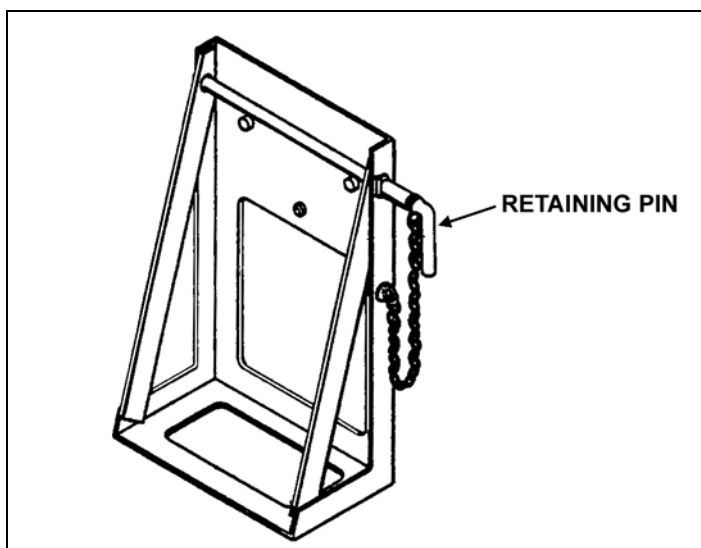

Figure 3-18. Bracket mounting assembly.
(6) ***Bracket Mounting Assembly.*** This assembly supplies a mount for the M548 metal ammunition container. It has a metal frame that attaches to the gun cradle, and a retaining pin that inserts through the top-inner end of the M548 ammunition container (Figure 3-18).